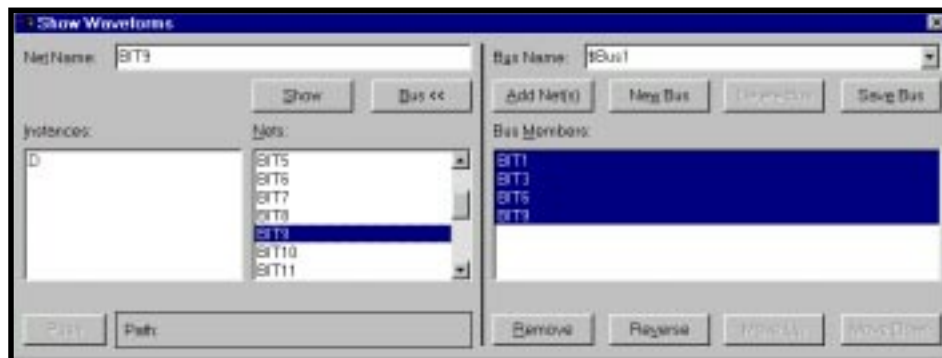

Figure 5-3. Show Waveforms Dialog Box
5. When the simulation ends, the waveforms of the signals display in the Waveform Viewer. You can click the **Waveform Viewer** icon from the toolbar or select **Tools** ⇒ **Waveform Viewer** from the Simulator Control Panel window to open the Waveform Viewer if you did not check the **View** ⇒ **Show Waveforms** menu item before running the simulation. Select **Edit** ⇒ **Show** in the Waveform Viewer window; the Show Waveforms dialog box appears (Figure 5-3).